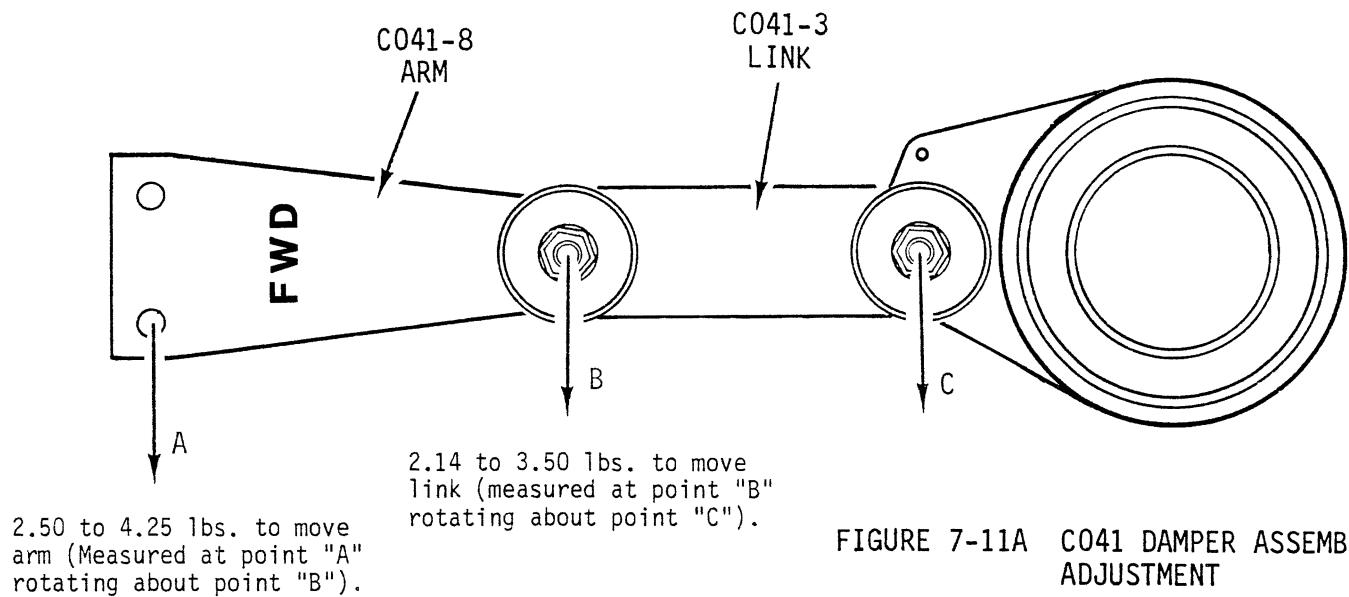

FIGURE 7-11A C041 DAMPER ASSEMBLY
- f) Refer to Figure 7-11A. Hold C041-3 link and attach a spring scale or dead weight to one bolt hole in C041-8 arm. It should take 2.50 to 4.25 lb to move arm. Check bearing housing pivot friction with spring scale or dead weight at link bolt. It should take 2.14 to 3.50 lb to move link.